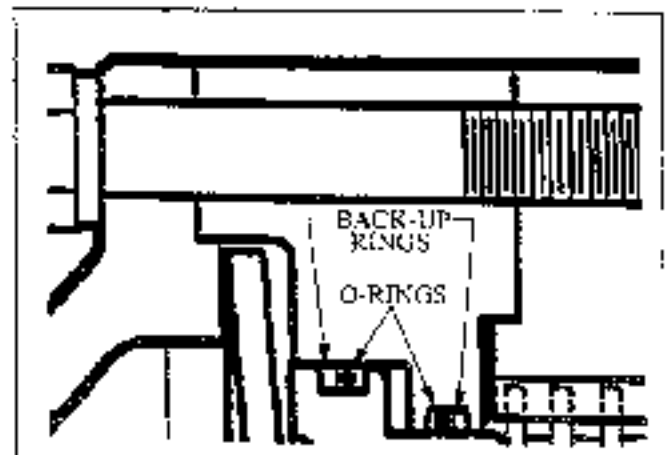

Figure 23
Place the back-up rings to the outside so that the pressure pushes the "O" ring against the back-up assembly as shown in Figure 23.
15. Inspect the clutch and separator disc for wear or damaged teeth. The original total thickness of the clutch disc is 0.156/0.150". If wear is more than 0.020" per disc, replace the clutch and separator disc. See Figure 23 and 33.